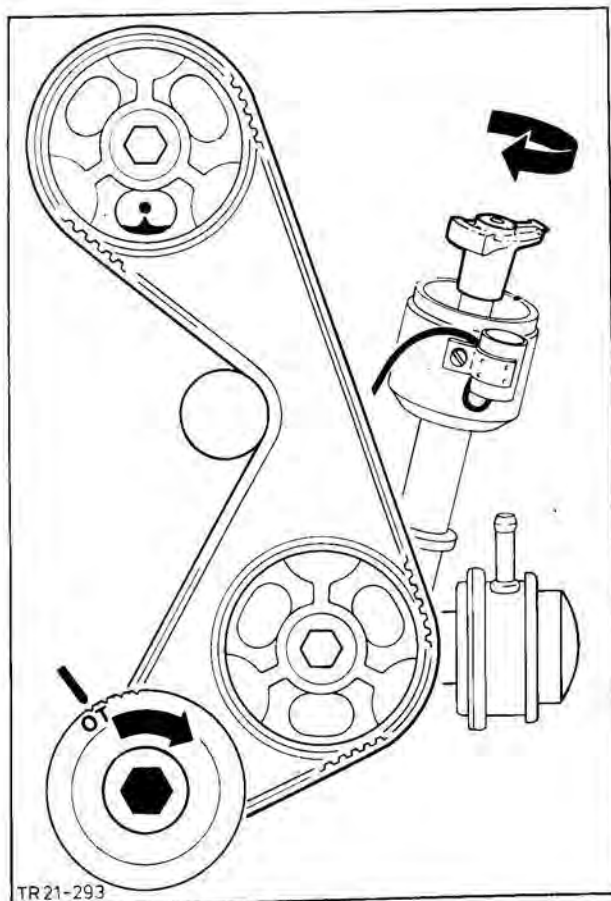

Fig. 236. No 1 cylinder piston in TDC
12. Check whether camshaft and crankshaft are aligned on No. 1 cylinder TDC mark. Fit distributor and similarly align on No. 1 cylinder mark, Fig. 236.